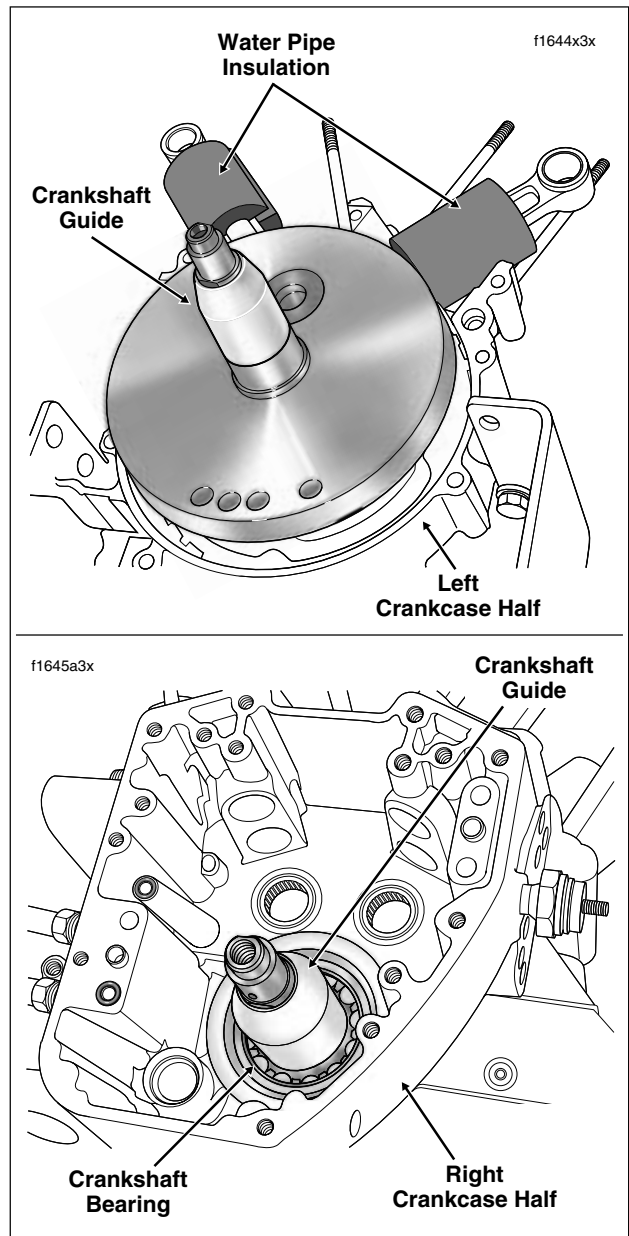

Figure 3-45. Install Crankshaft Guide to Protect Crankshaft Bearing
5. To prevent damage to the crankshaft bearing, place CRANKSHAFT GUIDE (HD-42326A) over end of crankshaft. Mate case halves sliding bearing in right crankcase half over end of crankshaft. Remove tool. See Figure 3-45.